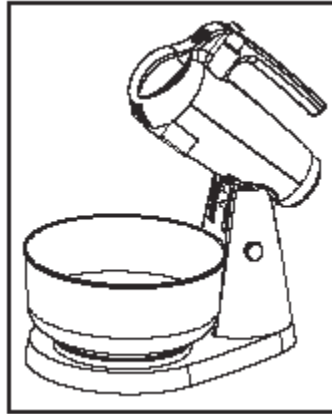

Figure 4: Placing Mixing bowls on the turntable.
1. When using the large stainless steel bowl, place the bowl in the off-center position where the large bowl image is located. This direction is illustrated in Figure 4 above.